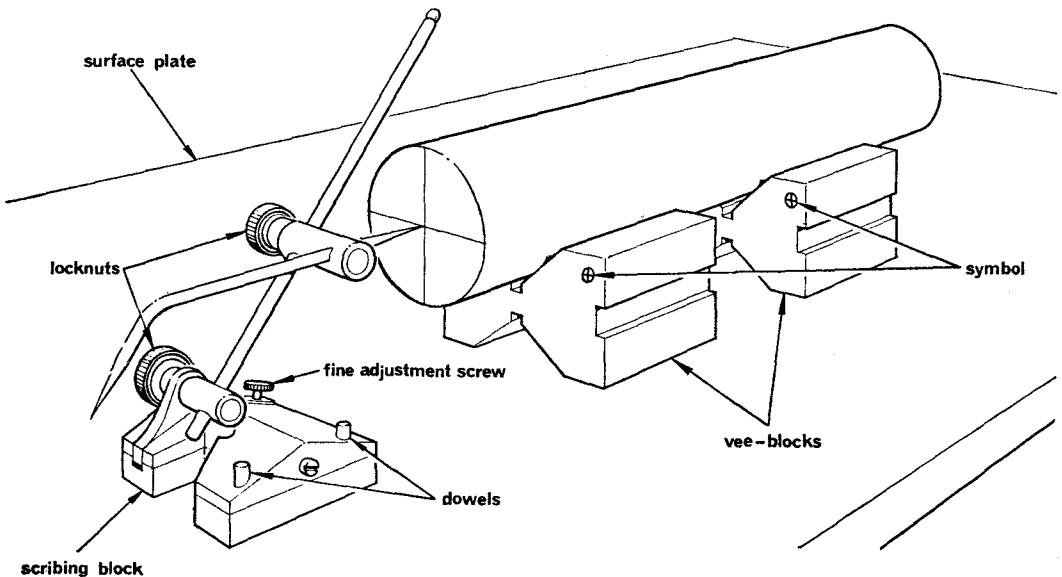

Fig. 33 Use of marking-out tools
39. **Vee blocks.** These are supplied as a pair and are used to support cylindrical work for marking-out on a surface plate (Fig. 33). All faces of vee blocks are machined as a pair and given an identification number. For correct positioning of the job the blocks used should have the same number at the same side of the work.
40. **Scribing block.** This is used when scribing lines parallel to a true surface and is normally used on a surface plate or a special marking-off table. The height of the scriber can be adjusted and locked in position; fine adjustment is then provided by a screw on the base. Dowels in the base can be used to allow the block to slide along a machined edge. Fig. 33 shows a block being used for marking-out on a cylinder.